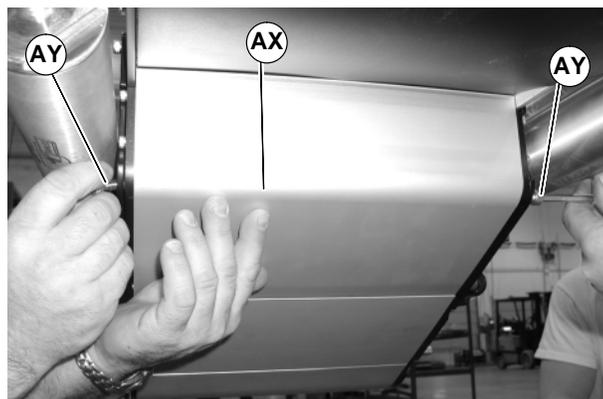

Figure 87
2. Temporarily support idler guard assembly (AX of Figure 87). Remove screws (AY).